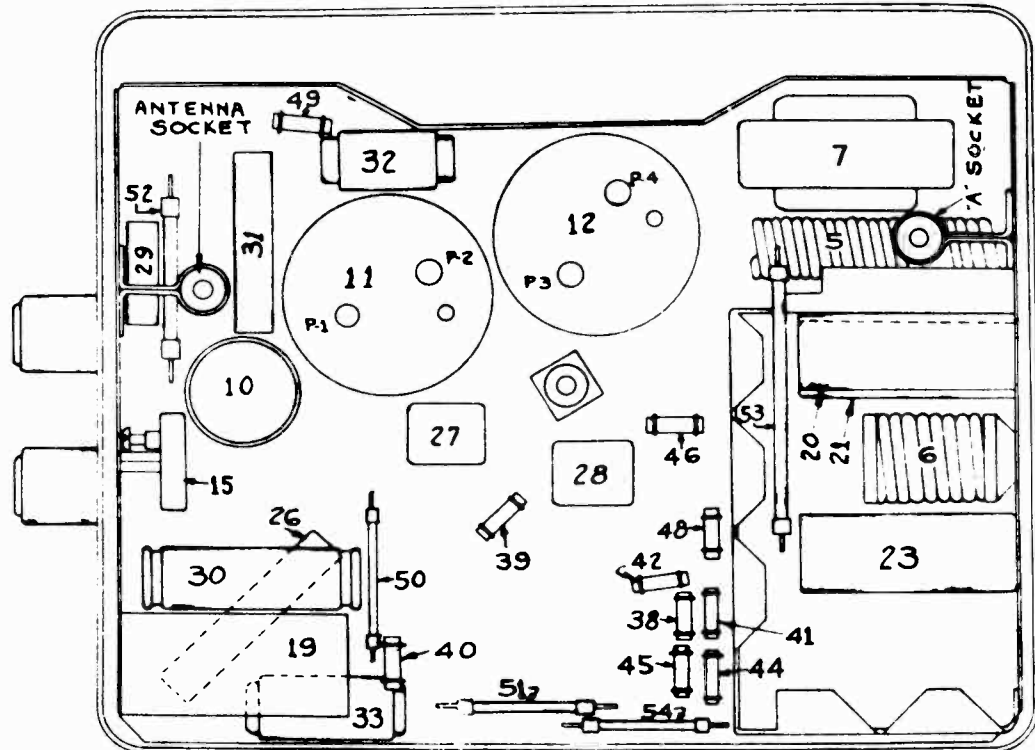

FIG. 3 PARTS LAYOUT--BOTTOM VIEW
- Peak each of the I.F. trimmers on the 2nd I.F. coil, Illustration #12 on Fig. 3.
- Then peak each of the trimmers on the 1st I.F. coil, Illustration #11 on Fig. 3.
NOTE: In order to accurately set the "ANT." trimmer of the condenser gang at 1400 K.C. it will be necessary to make a preliminary adjustment of the "antenna compensating condenser" (Illustration #15 on Fig. 3) before installing the receiver on a car.
(f) Peak the "antenna compensating condenser," (Illustration #15 on Fig. 3) for maximum output, rocking the rotor plates of the condenser gang back and forth and adjusting the "antenna compensating condenser" alternately until no further improvement in output can be obtained.